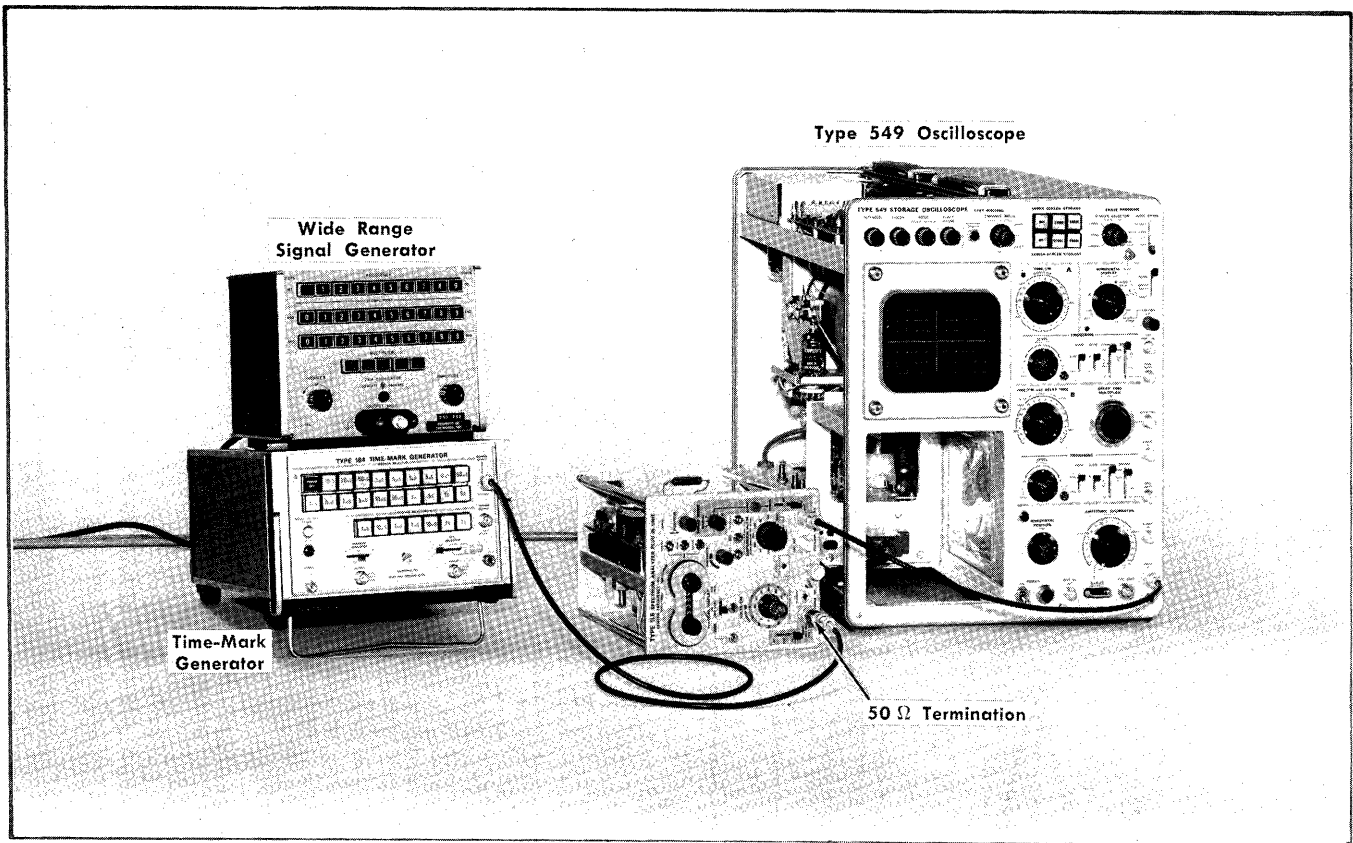

Fig. 6-8. Equipment setup to adjust or check dispersion and center frequency accuracy.
3. Adjust Dispersion and Center Frequency ❶
a. Equipment setup is shown in Fig. 6-8.